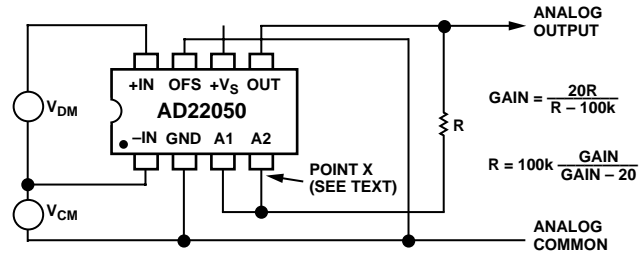
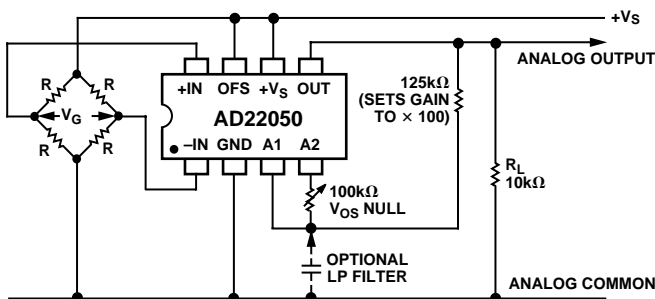

Figure 5. Achieving Gains Greater Than  $\times 20$
Figure 12. Typical Connections for a Strain Gage Interface Using the Offset Feature
**Increasing the Gain.** The gain can be raised by connecting a resistor from the output of the buffer amplifier (Pin 5) to its noninverting input (Pin 4) as shown in Figure 5. The gain is
Once again, a small offset voltage will arise from an imbalance in source resistances and the finite bias currents inherently present at the input of A2. In most applications this additional offset error (about  $130 \mu\text{V}$  at  $\times 40$ ) will be comparable with the specified offset range and will therefore introduce negligible skew. It may, however, be essentially eliminated by the addition of a resistor in series with the parallel sum of  $R$  and  $100 \text{ k}\Omega$  (i.e., at "Point X" in Figure 5) so the total series resistance is maintained at  $100 \text{ k}\Omega$ . For example, at a gain of  $\times 30$ , when  $R = 300 \text{ k}\Omega$  and the parallel sum of  $R$  and  $100 \text{ k}\Omega$  is  $75 \text{ k}\Omega$ , the padding resistor should be  $25 \text{ k}\Omega$ . A  $50 \text{ k}\Omega$  pot would provide an offset range of about  $\pm 2.25 \text{ mV}$  referred to the output, or  $\pm 75 \mu\text{V}$  referred to the attenuator input. A specific example is shown in Figure 12.
If the gain is raised using a resistor, as shown in Figure 5, the corner frequency is lowered by the same factor as the gain is raised. Thus, using a resistor of 200 k $\Omega$  (for which the gain would be doubled) the corner frequency is now 0.796 Hz- $\mu$ F, (0.039  $\mu$ F for a 20 Hz corner).
The AD22050 can be used to interface a strain gage to a subsequent process where only a single supply voltage is available. In this application, the midscale offset feature is valuable, since the output of the bridge may have either polarity. Figure 12 shows typical connections.
An ac excitation of up to  $\pm 2$  V can also be used because the common-mode range of the AD22050 extends to  $-1$  V. Assuming a full-scale bridge output ( $V_G$ ) of  $\pm 10$  mV, a gain of  $\times 100$  might be used to provide an output of  $\pm 1$  V (a full-scale range of +1.5 V to +3.5 V). This gain is achieved using the method discussed in connection with Figure 5. Note that the gain-setting resistor does not affect the accuracy of the midscale offset. (However, if the gain were lowered, using a resistor to ground, this offset would no longer be accurate.) A  $V_{OS}$  nulling pot is included for illustrative purposes. One-, two- and three-pole filtering can also be implemented, as discussed in the Low-Pass Filtering section.
A unique method of feedback around A1, provided by R9 and R7, sets the closed-loop gain of the preamplifier to  $\times 10$  (from the input pins). The feedback network is balanced by the inclusion of R6 and R8. The small value of R7 results in a more practical value for R9 (which would have to be 2 M $\Omega$  if the feedback were taken directly to the inputs of A1). R8 is not directly connected to ground, but to an optional voltage of one half that is applied to Pin 7 (OFS). It is trimmed to within close tolerances through R10 and R11. This allows the output of A1 to be offset to midscale, typically  $+V_S/2$ , by tying Pins 6 and 7 together. (For an example of the use of this feature, see Figure 12.) The gain is adjusted by the single resistor R5, which acts only on the differential signal. More importantly, it also results in much less feed forward of the common-mode signal to the output of A1, which, being a single-supply circuit, has no means of pulling this output down toward ground in those circumstances where the common-mode input is very positive while the net differential signal is small. (The output of A1 is the collector of a PNP transistor whose emitter is tied to  $+V_S$ .) R16 is specifically included to alleviate this problem.